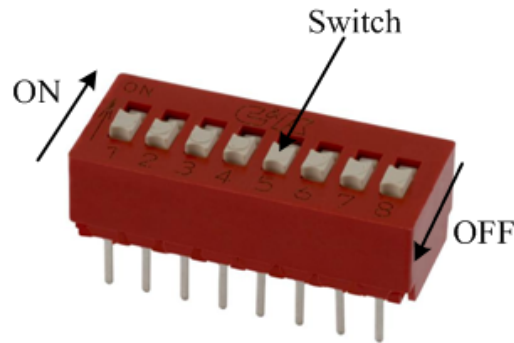

Figure 6: 16-pin DIP Switch
2. Figure 6 depicts a DIP switch, which is a set of electrical switches that are packaged in a standard Dual In-line Package (DIP). This type of switch is designed to be used on a printed circuit board or bread-board along with other electronic components and provides user input to a digital circuit. DIP switches usually come in packages with eight switches. The eight switch package offers up to 256 total combinations. In this lab class, we will use these DIP switches to read in a 0 (Off condition) or a 1 (On condition) from the user.